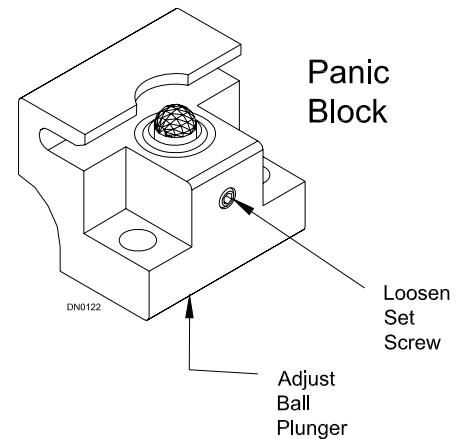

Figure 22
2. Remove panic block in top of door (see Figure 22).